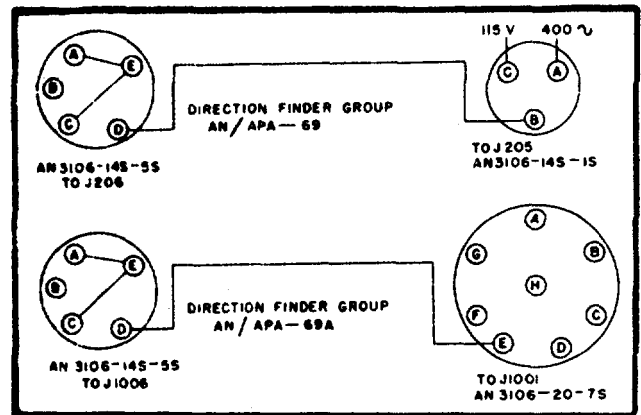

Figure 5-1. Plug Wiring and Connections for Zeroing Azimuth Indicator
a. Remove the plug from the Flux Gate compass connected to J206 (Azimuth Indicator IP-36/APA-69) or J1006 (Azimuth-Panoramic Indicator IP-81()/APA-69A). Procure a blank plug of the same type (AN-3106-145-5S) and wire as follows: Short a jumper between terminal A and C and terminal E. (This connects two stators of the synchro control transformer to ground.) (See figure 5-1.)
b. On Direction Finder Group AN/APA-69, remove the 115-volt a-c power plug that is connected to J205. This plug has an unused terminal B. (Terminal B on J205 is internally connected to terminal 3 of transformer T205 which is the 6.3-volt a-c winding.) Solder a wire to terminal B of the power plug and connect the other end of this wire to terminal D on the blank plug which is associated with J206. (This connection will apply 6.3 volts ac to the third stator winding of the synchro in the torque unit.) With Direction Finder Group AN/APA-69A, the 6.3 volts ac is obtained in a similar manner. Remove the plug which is connected to J1001 on the Azimuth-Panoramic Indicator IP-81()/APA-69A. This plug has an unused terminal E which is connected, through E of J1001, to the 6.3-volt a-c tap of transformer T1005. Solder a wire to terminal E of this plug and connect the other end of the wire to terminal D of the test plug which is associated with J1006. Refer to figure 5-1 for these connections.